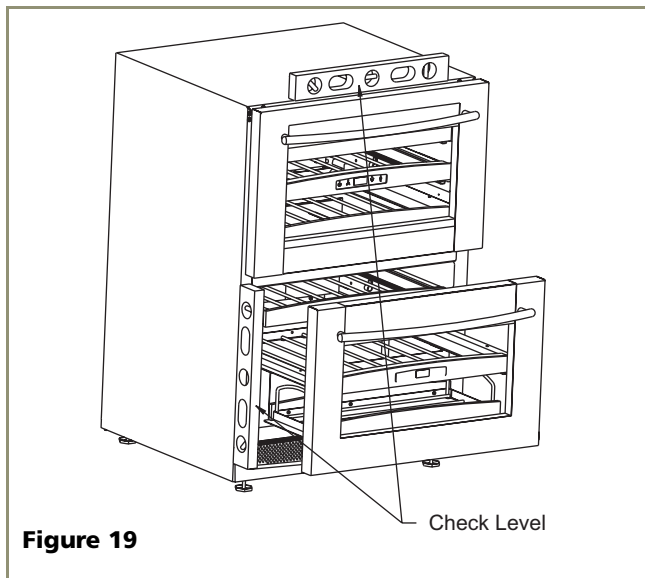

Figure 19
1. Use a level to check the levelness of the unit from front to back and from side to side. Level should be placed along top edge and side edge as shown (see **Figure 19**).